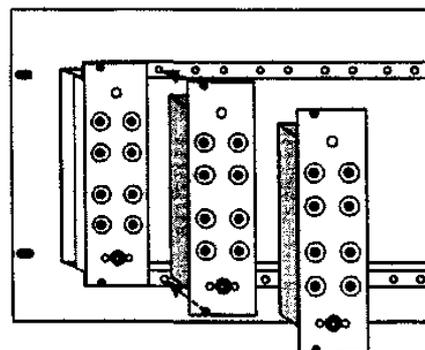

Figure 8c
- Insert further modules (up to 12) as shown in figure 8c.